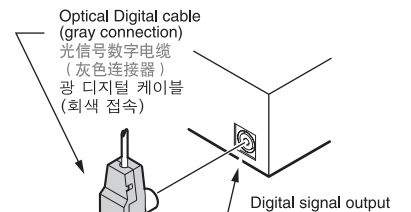

Figure 12 / 圖 12 / 그림 12
- Insert the gray connector securely into the digital signal output connector until it locks. (Figure 12) When disconnecting a optical digital cable, squeeze the tabs at the right and left sides of the connector, and pull gently. (Figure 13)
- 请将灰色连接器牢固插入数字信号输出连接器, 直到其锁定到位. (图12) 断开光信号数字电缆时, 挤压连接器左右两侧的凸出, 然后轻轻拉出. (图13)